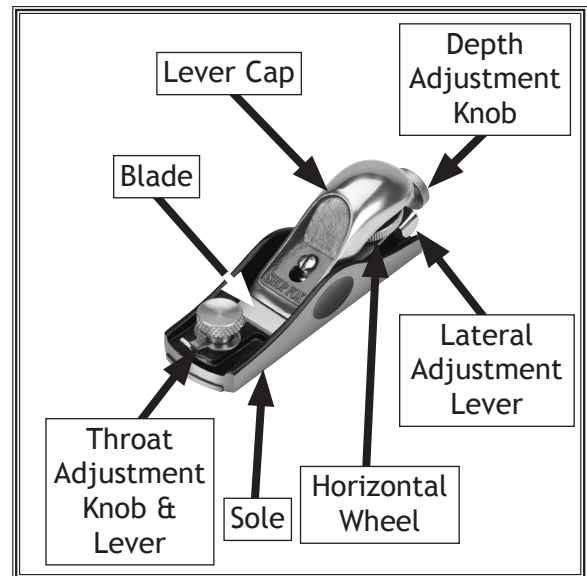

Figure 1. Model D3831 identification.
2. Turn the depth adjustment knob (see **Figure 1**) clockwise to extend the blade or counterclockwise to retract the blade, so it extends approximately 0.001" beyond the sole.
- If the blade is not parallel to the sole, adjust it as needed with the lateral adjustment lever (see **Figure 1**). One side will cut more than the other if the blade is not parallel with the sole.
The throat plate is adjusted for the type of cut. Normally the throat opening is set a little wider than the thickest shaving you plan to remove from the workpiece. To perform finer cuts, use a smaller opening. For more aggressive cuts, use a larger opening. To adjust the throat, simply loosen the throat adjustment knob shown in **Figure 1**, turn the adjustment lever in the needed direction, then tighten the knob.